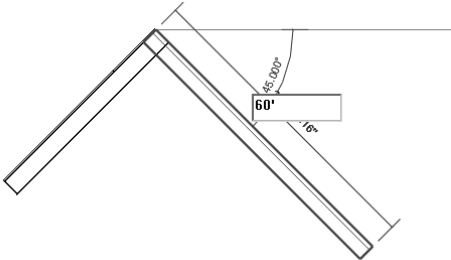

Figure 3-40 Sketching the second inclined wall segment
5. The **Chain** option is enabled and therefore the second wall segment starts from the last specified point. Move the cursor downward towards the right and right-click to invoke the shortcut menu. Choose **Snap Overrides > Perpendicular** from the displayed shortcut menu; the perpendicular snap symbol appears at the end of the wall. Enter **60'0"**, see Figure 3-40. The wall perpendicular to the first inclined wall is created.